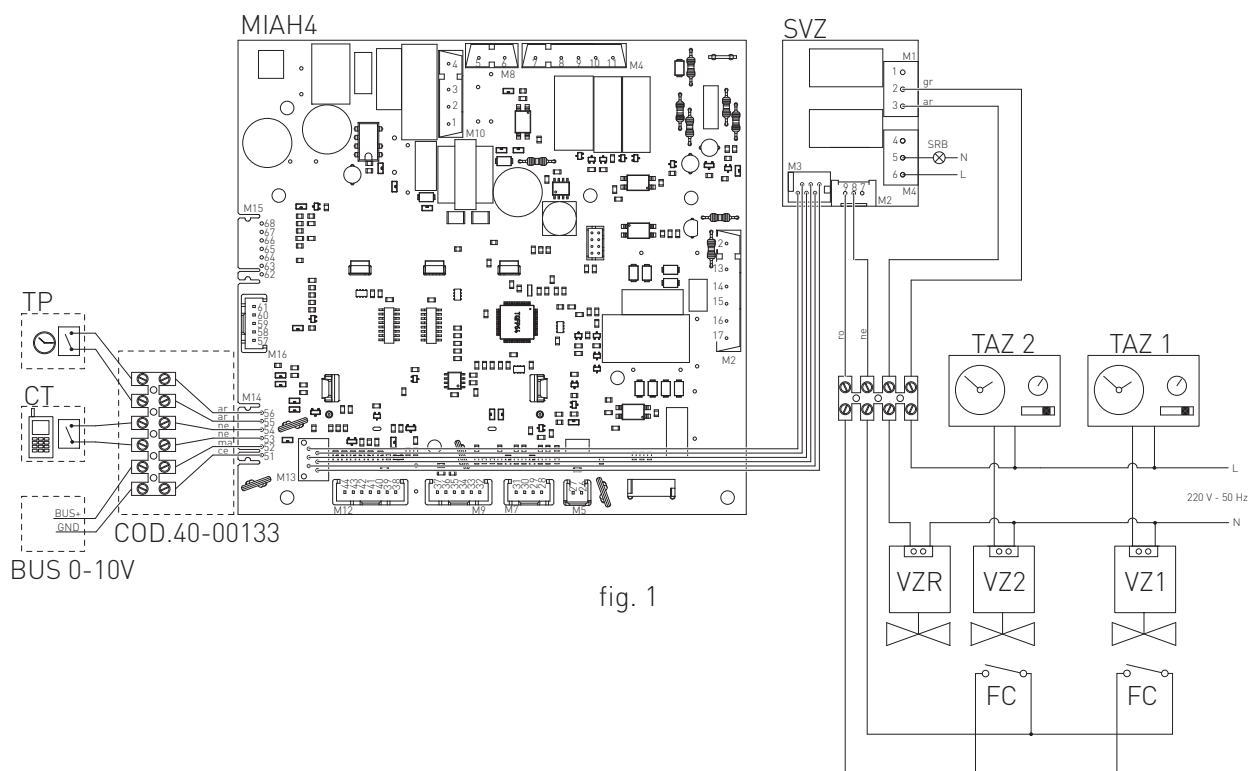

fig. 1
- › after removing the crankcase, connect the items below to the electronic board (see fig. 1):